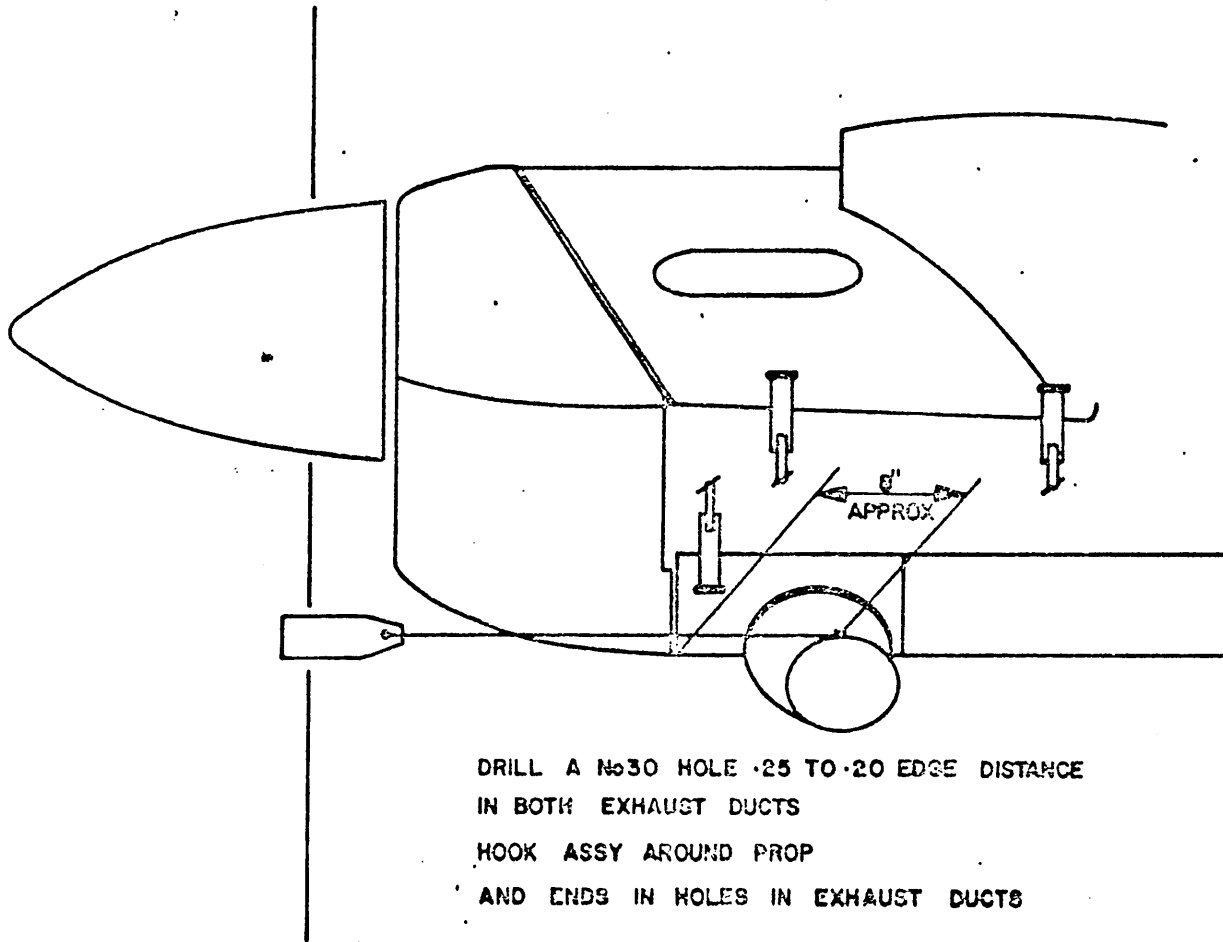

FIGURE 1 PROPELLER RESTRAINT INSTALLATION
- G. Drill designated holes in the engine nacelle bottom cowl exhaust ducts and manufacture two off propeller restraints for use when parked (Ref. Fig. 1 and 2).
- (1) Page 3: After 'NORMAL OPERATING PROCEDURES' insert 'CAUTION, PASSENGERS MUST NOT BE CARRIED IN RIGHT HAND CREW SEAT'.
- (2) Page 16: After para. 3.26b insert 'WARNING, BEWARE OF PROP ON EXIT'.
- (3) Pages 6, 7, 16 and 27: Delete PROP BRAKE and insert DOOR WARNING; delete RUN and insert ON; delete PARK and insert OFF.